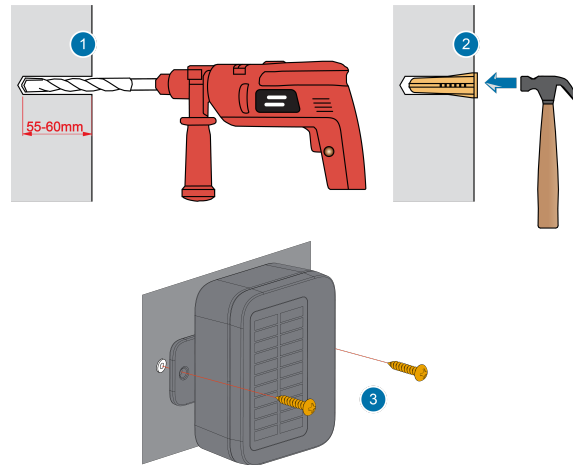

Figure 18: Fixing the enclosure on the wall
3. Lastly, follow the steps below, as also shown in Figure 18:
- **Step 3:** Fix the WisBlock Unify Enclosure on the wall using two (2) pieces of st3.5*35 mm tapping screws.